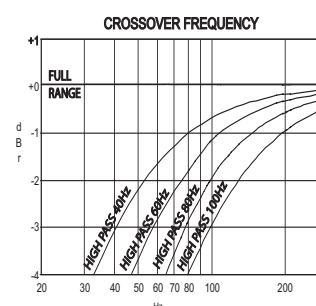

FIGURE 8
- 9. biamp (crossover frequency selection):** If one uses smaller shelf-type speakers, in conjunction with a powered subwoofer (refer to **PRE OUT 2** section under Rear Panel Connections and Controls), the M3 allows the configuration of the speaker crossover frequency to match the bass response of the speakers. Press the **biamp** button to toggle through the filter sequence. A press longer than one second will advance the crossover frequency selection as follows; BIAMP CROSSOVER FULL RANGE, HIGH PASS 40 Hz, HIGH PASS 60 Hz, HIGH PASS 80 Hz, HIGH PASS 100 Hz, and then return to FULL RANGE. Release the **biamp** button to stop the sequence. See figure 8 examples of the crossover frequency response diagram. For connection of a subwoofer see Rear Panel Connections and Controls; **PRE OUT 2**.